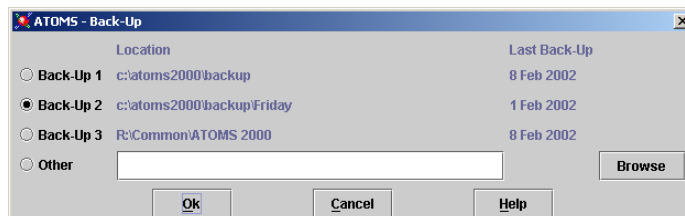

Figure 4-16. Back-Up Selection Window
- 1) From the splash screen, select **Utilities**, **Back-Up**. The **Back-Up** window appears (Figure 4-16), with the Back-Up locations and dates displayed. The default choice by the program (the location with the radio button selected) is the stored location with the oldest (longest ago) date.
- 2) The Restore window appears with the Back-Up locations displayed, looking identical to the Back-Up window in Figure 4-16 except for the title bar. The default is the location with the most recent date on its files. If desired, the user may select one of the other stored Back-Up locations by clicking the radio button, or the **Special** location, using **Browse** to point to another directory in which back-up files have been stored.